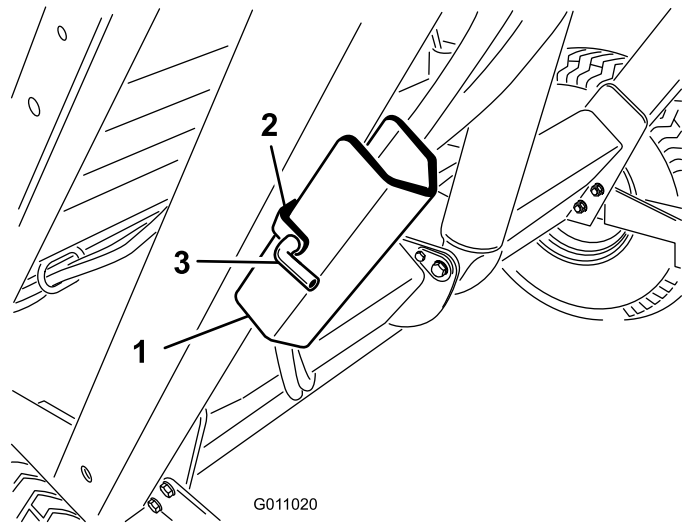

Figure 26
2. Remove the hairpin cotter and pin securing the safety support to the storage bracket on the machine frame (Figure 26). Remove the safety support.